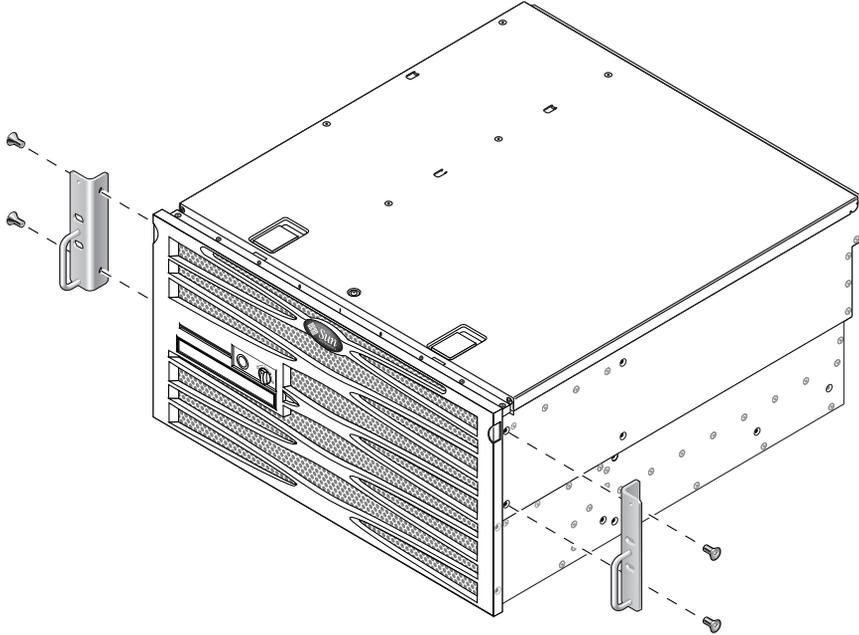

FIGURE 3-7 Securing the Hardmount Bracket to the Server
2. Using four of the supplied M5 × 8 mm flathead Phillips screws (two screws for each bracket), secure the hardmount brackets to the sides of the server (FIGURE 3-7).